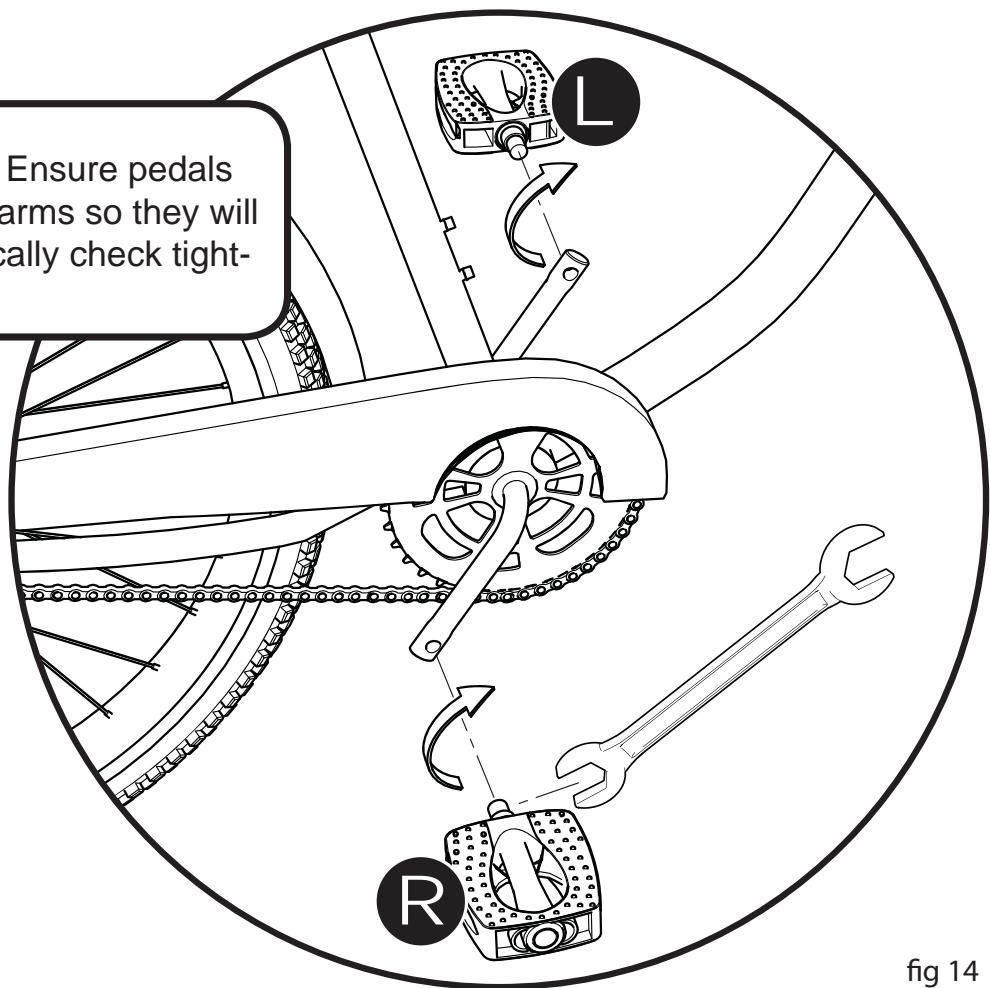

fig 14
Tighten the pedals (fig 14):
Check tightness of the cantilever mounting Bolt (A) (fig 14):